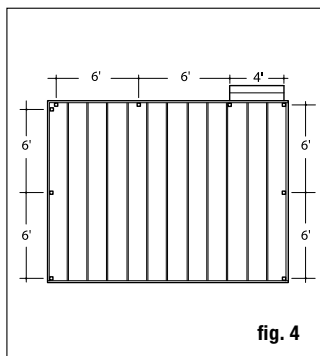

fig. 4
Step 7 Position the rail alongside the posts using 6" maximum spacing between bottom rail, riser, and stair tread. With the top railing resting on the continuous stair rail, center the continuous stair bracket to be centered on the post. Mark the bottom of the bracket. Then cut the post 3/8" above the mark to allow for the flange on the bottom side of the bracket (fig. 4).
Step 9 A rail support is needed every 2 feet (**2 are included in the 6ft rail kit, 3 in the 8ft kit**). Attach rail support connectors to the bottom of the lower rail at 2-foot intervals using included screws. Pre-drill using a 1/8" drill bit. Mark the location of the rail support on the step tread and attach the other rail support connectors to the step tread. **Drill one 1/4" drain hole through the bottom of the rail to prevent trapping water.** Position the hole toward the lower end of the rail, roughly 1.5" from rail end to avoid the lower bracket (fig. 4).
Step 1 Determine the layout and number of railing posts needed for your deck. Post spacing is 6' or 8' on-center. Cable posts are available pre-drilled for end, line and corner posts. Cable is available in lengths of 5', 10', 15', 20', 25', 30', 40' and 50'. Many layout options are possible. One tip is to start with the most visible run. It's the one on which you want the least interference with the view, so you can start from there and build around it. Corner applications: When taking cable through a corner, do not bend the cable past 45° at any time. When turning 90°, use a corner post (fig. 2b) or make a 2-step turn using a double corner post configuration (fig. 4), or stop the cable run and start a new run. Example: A 12' x 16' deck attached to a building with a 4' access opening on one side will require a total of nine posts (eight if using corner post).